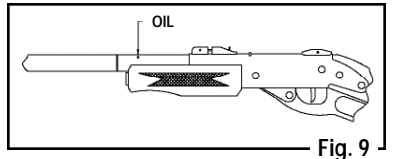

Fig. 9
- Add two drops of Crosman Crosman 0241 PELLGUNOIL® lubricating oil every 300 to 400 shots where indicated (Fig. 9). DO NOT use a petroleum distillate based oil or solvent and DO NOT over-oil as this can cause damage to your air rifle.